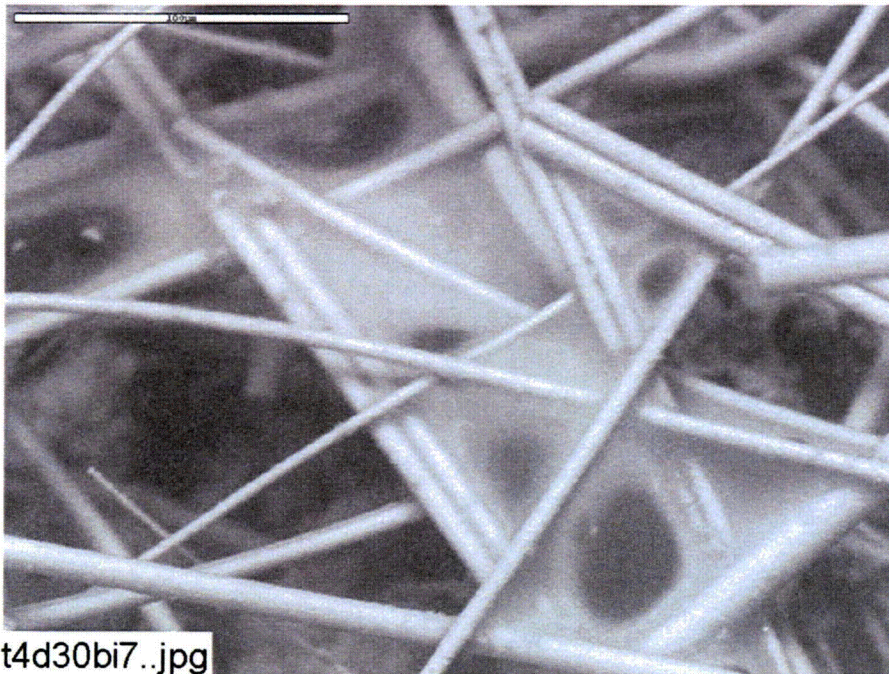

Figure C7-4. Environmental SEM image magnified 100 times for a Test #4, Day-30 interior fiberglass sample within the birdcage. (t4d30bi5.jpg)
- Figure C7-4. Environmental SEM image magnified 100 times for a Test #4, Day-30 interior fiberglass sample within the birdcage. (t4d30bi5.jpg) C7-5